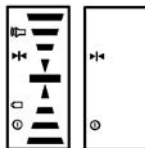

Figure 3 Figure 4
**Press the Power Key:** The LCD will display all the symbols then enter into detection mode. (See figure 3) The LCD display will show the ON symbol and the Coarse/Fine symbol. (See figure 4)